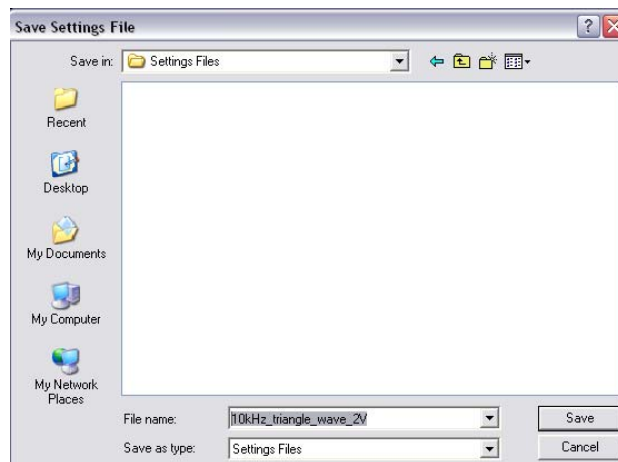

Figure 2.3: Save Settings Window
- 6) A Save Window will pop up and allows the user to choose the directory and name the settings file, shown in Figure 2.3.